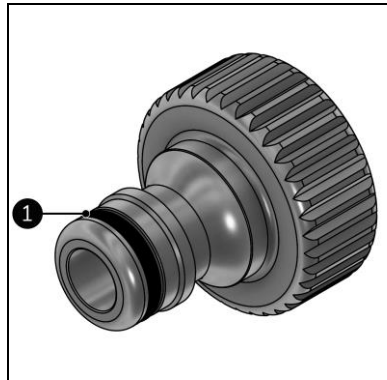

Figure 19
7. Apply Vaseline to the O-ring of the garden hose coupling (Figure 19, pos. 1).